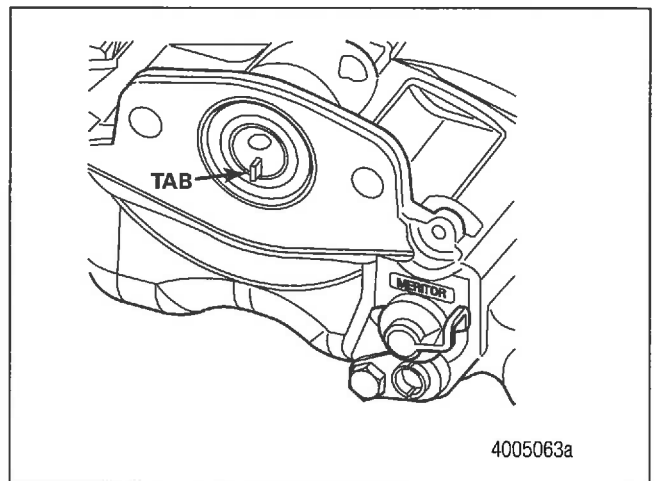
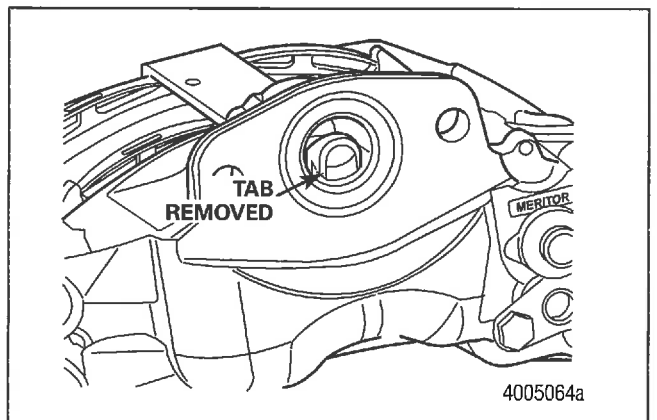

Figure 4
Figure 5
3. Before you install the air chamber onto the caliper assembly, ensure the perforated transit plug is removed from the caliper chamber seal by pulling the tab. Figure 4 and Figure 5.